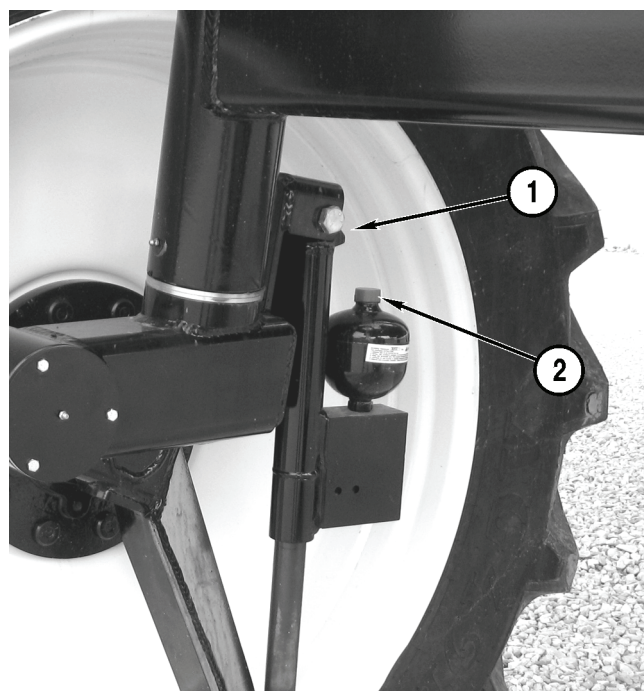

Figure 5-42
2. Remove the plug (**Figure 5-42, 1**) from the front of each front accumulator and check the fluid level. The fluid should be level with the bottom of the fill hole.
6. Remove the cap (**Figure 5-42, 2**) and install a nitrogen valve and gauge on the accumulator.